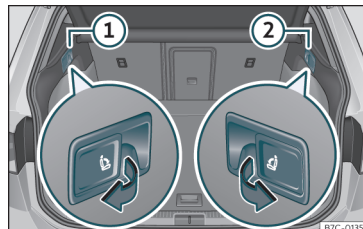

Fig. 129 In the trunk: levers for remote release of the left part ① and right part ② of the rear seat backrest.
- Pull the remote release lever of the left part »» Fig. 129 ① or right part ② of the backrest in the direction of the arrow. The released part of the rear seat backrest is folded automatically down and forwards.